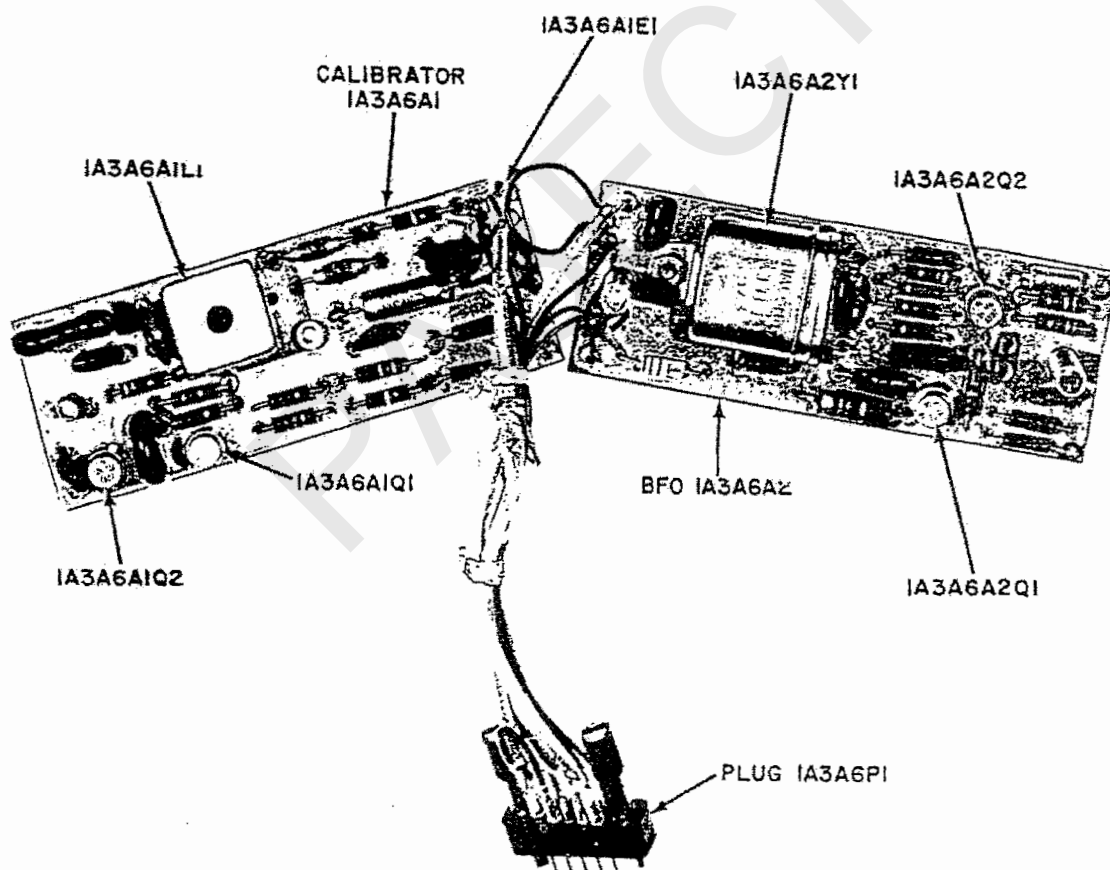

Figure 4-3. Calibrator and BFO
b. Connect an oscilloscope (Tektronix 545 or equivalent) to E1 (figure 4-3) on the BFO board 1A3A6A2. Connect a frequency counter (HP 524D or equivalent) to the vertical output of the oscilloscope.
c. Adjust 1A3A6A2L1 (figure 4-3) until the BFO frequency range controlled by the front panel BFO potentiometer, is symmetrically located with respect to 455 kHz.